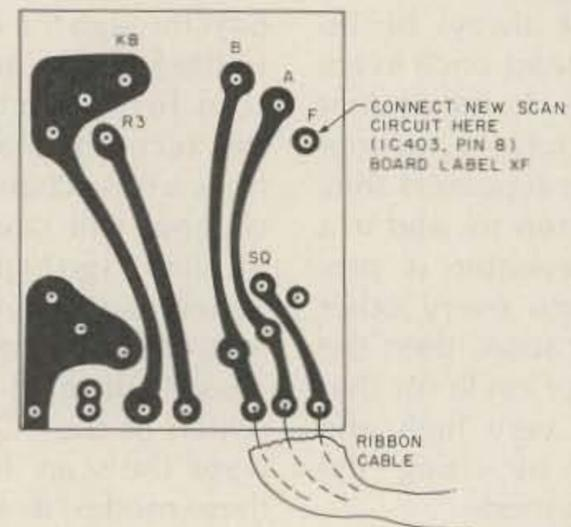

Fig. 11. Rear view of scan-mode switch showing point of connection from new scan circuit.
8) Solder the wire coming from point XF on the new board to the unused point F on the scan-mode switch's printed circuit board, as shown in Fig. 11.
A problem with the scanning modification must be either in the new board or in the connections to it (assuming the scanning worked properly prior to the modification). The pulse generators can be checked with a VOM by watching their outputs and pulling the trigger inputs low; with a grounded clip lead, touch the anode side of the trigger diodes. Check the polarity of D412 and D413. Check the wiring between the boards and scan switch. Make sure the correct F point on the scan switch was used (there are two points labeled F on the scan-switch PC board; Fig. 11 shows the correct one).